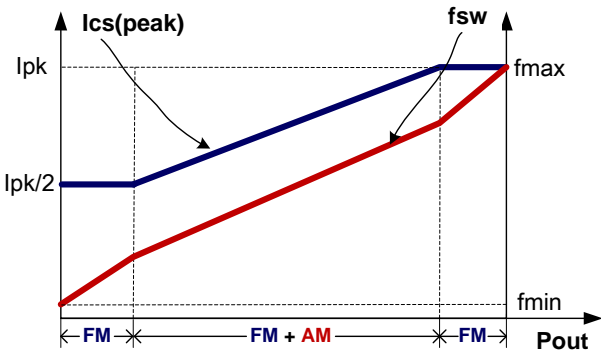

Fig.4
To meet the tight requirement of averaged system efficiency and no load power consumption, a hybrid of frequency modulation (FM) and amplitude modulation (AM) is adopted in PT250X which is shown in the Fig 4.